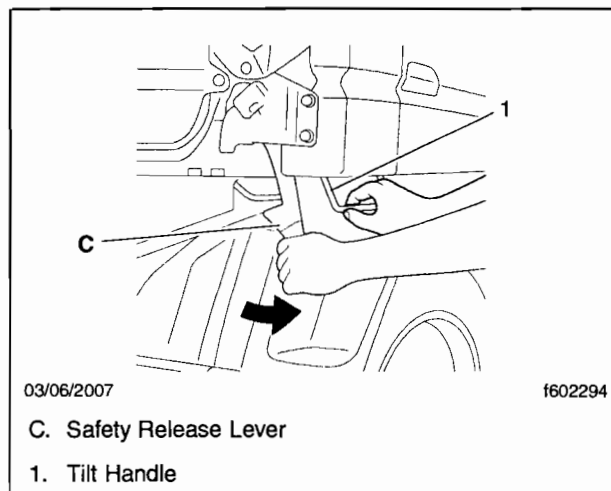

Fig. 3, Releasing the Safety Latch
- 2.2 While holding the tilt handle, pull the safety release lever (C). See **Fig. 3**. The cab will rise slightly.